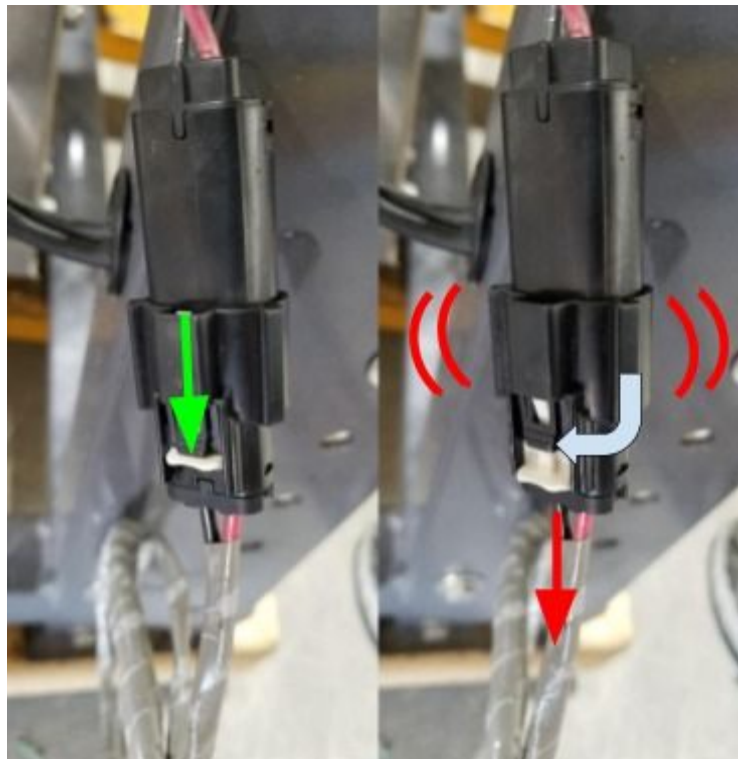

Figure 5) Steps for Disconnecting the Power Cable
3. Push down on the black latch and wiggle the connector back and forth while pulling it outward. (See Figure 5)